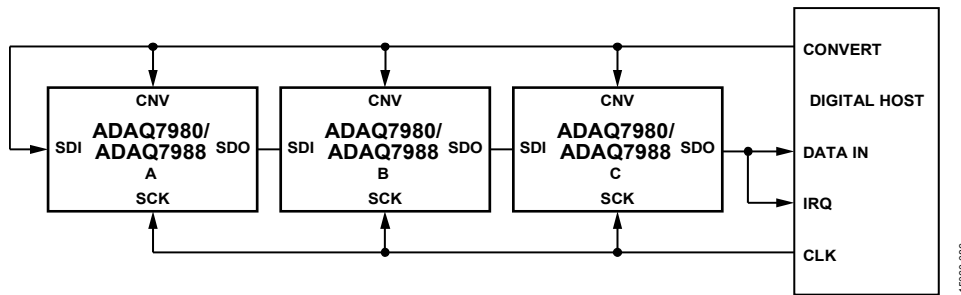
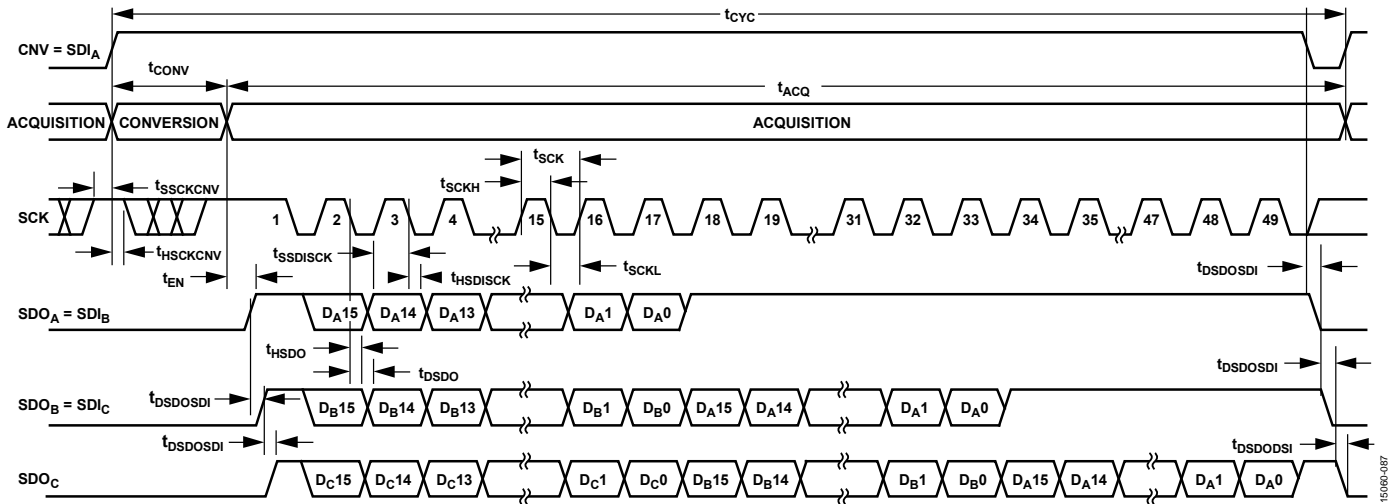

Figure 81. Chain Mode with the Busy Indicator Connection Diagram
Figure 82. Chain Mode with Busy Indicator Serial Interface Timing
- In chain mode if SCK is high during the CNV rising edge (see Figure 82).
Figure 81 shows a connection diagram example using three ADAQ7980/ADAQ7988 devices, and Figure 82 shows the corresponding timing.
readback. When all ADCs in the chain complete their conversions, drive the SDO pin of the ADC closest to the digital host (see the ADAQ7980/ADAQ7988 ADC labeled C in Figure 81) high. Use this transition on SDO as a busy indicator to trigger the data readback controlled by the digital host. The ADAQ7980/ADAQ7988 then enter the acquisition phase and power down. The data bits stored in the internal shift register clock out, MSB first, by subsequent SCK falling edges. For each ADC, SDI feeds the input of the internal shift register and clocks out by the SCK falling edge. Each ADC in the chain outputs its data MSB first, and $16 \times N + 1$ clocks are required to read back the N ADCs. Although the rising edge can capture the data, a digital host using the SCK falling edge allows a faster reading rate and, consequently, more ADAQ7980/ADAQ7988 devices in the chain, if the digital host has an acceptable hold time.